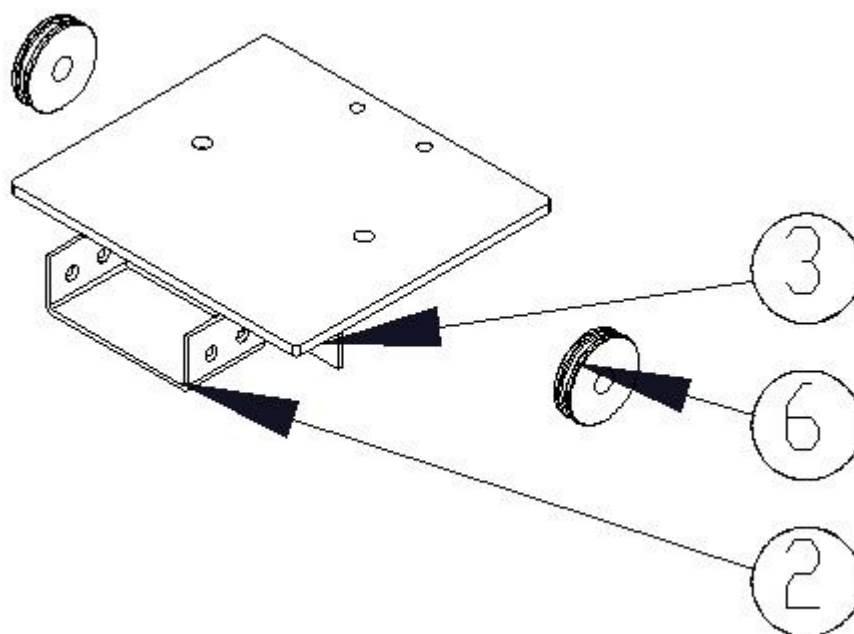

Fig.6-1 Parts connection diagram
*Connect power line according to the electric diagram (see Fig.6-1) (provided by user). The three black lines are phase wire and a blue line is N wire. A yellow and green line is ground wire which should be connected to the ground reliably.*